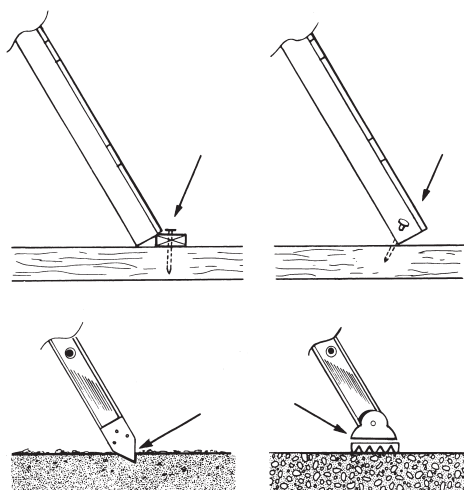

Figure 20-6: Methods of Securing Ladder Base
- Secure the base of the ladder against accidental movement. Use a ladder equipped with non-slip feet appropriate for the situation, nail a cleat to the floor, or otherwise anchor the feet or bottom of the side rails (Figure 20-6).
Finally, a large number of incidents occur because workers use straight ladders that are not secured. Site supervisors must rigidly ensure that ladders are either firmly secured or held in place by a second worker (refer to Figures 20-6 to 20-8).